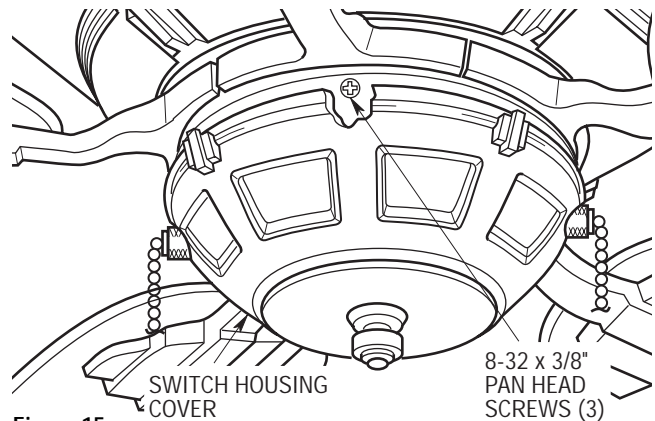

Figure 15
- 11. Position the switch housing cover over the switch housing and rotate slightly until the tab in the cover engages with the notch in the switch housing. Install three 8-32 x 3/8" pan head screws to secure the cover in place (Figure 15).